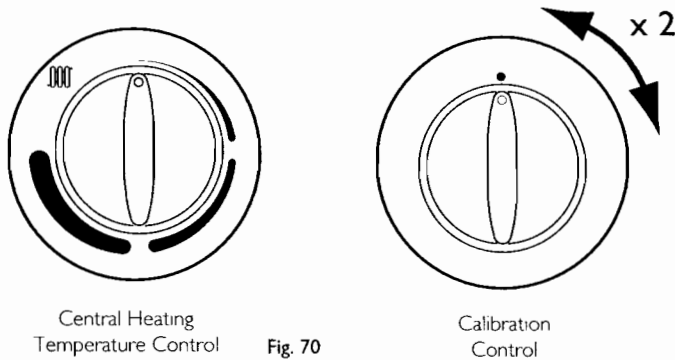

Fig. 70
4. Turn both temperature control knobs fully anticlockwise, then quickly turn the DHW temperature knob $\frac{1}{4}$ clockwise twice and back fully anticlockwise (Fig. 70).